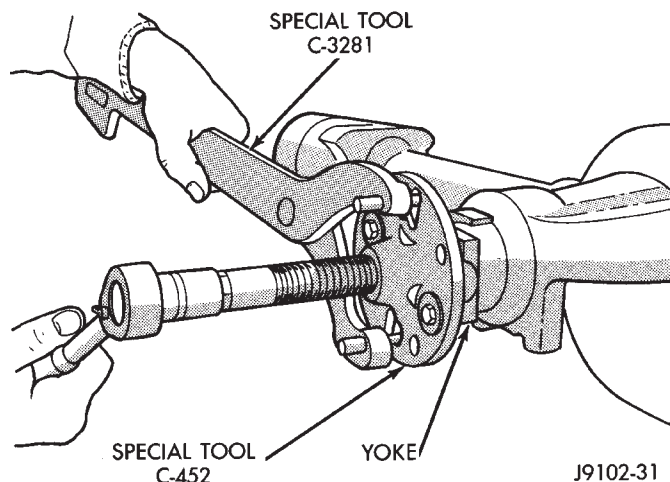

Fig. 6 Pinion Yoke Removal
(6) Measure the amount of torque (in Newton-meters or inch-pounds) necessary to rotate the pinion gear with a torque wrench. Note the torque for installation reference. **It must be known to properly adjust the pinion gear bearing preload torque after seal installation.**
(7) Remove the pinion yoke nut and washer. Use Remover C-452 and Wrench C-3281 to remove the pinion yoke (Fig. 6).
(8) Mark the positions of the yoke and pinion gear for installation alignment reference.